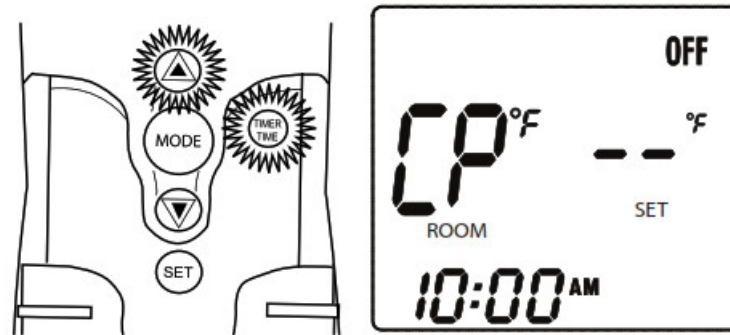

Fig. 21 Child Protection (CP)
1. Press and release the TIMER/TIME button on the transmitter. The word TIMER will appear and 0:15 minutes will begin blinking on the screen (Fig. 21).